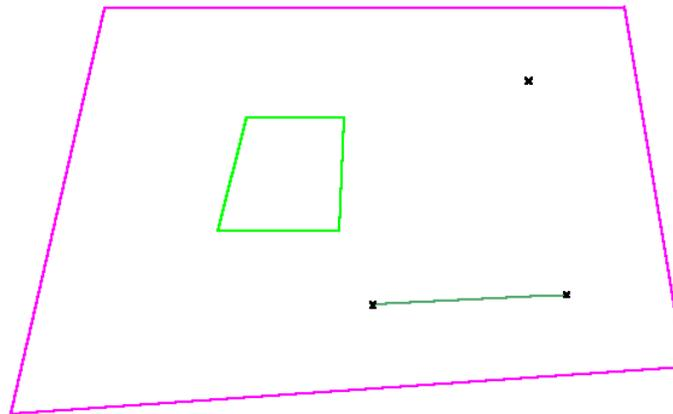
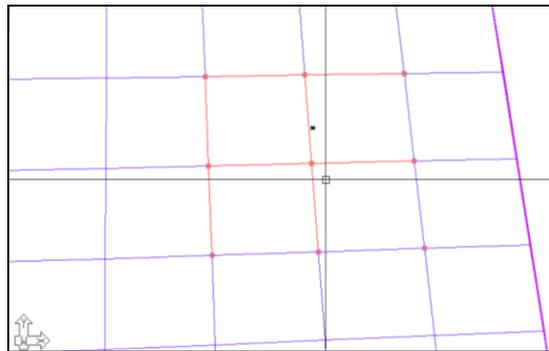

Figure 8.2-4 - Component Representation of the Floor
Figure 8.2-6 - Selecting Four Cells Adjacent to a Column Point
The diagram of line and node constraints for the meshing (**Fig. 8.2-4**) is generated each time meshing is attempted. It is saved in a layer called “component representative.”³ You can view it on its own, by turning this layer on and all the others off.
After the structural validation, the program converts the floor system to a simple drawing (component representation as described above) that shows only the outline to be covered by mesh cells. The component representation is shown in **Fig. 8.2-4**.
Figures 8.2-6 through **8.2-12** illustrate the editing of the mesh to map it on the point and line restraints of the component representation in **Fig. 8.2-4**. The editing consists of the following steps.
- Select the common node of the cells next to column points, drag them and snap them to the column points (**Figs. 8.2-6** through **8.2-8**). In this operation, it is important to select all the cells that share the common node to be shifted to the column.